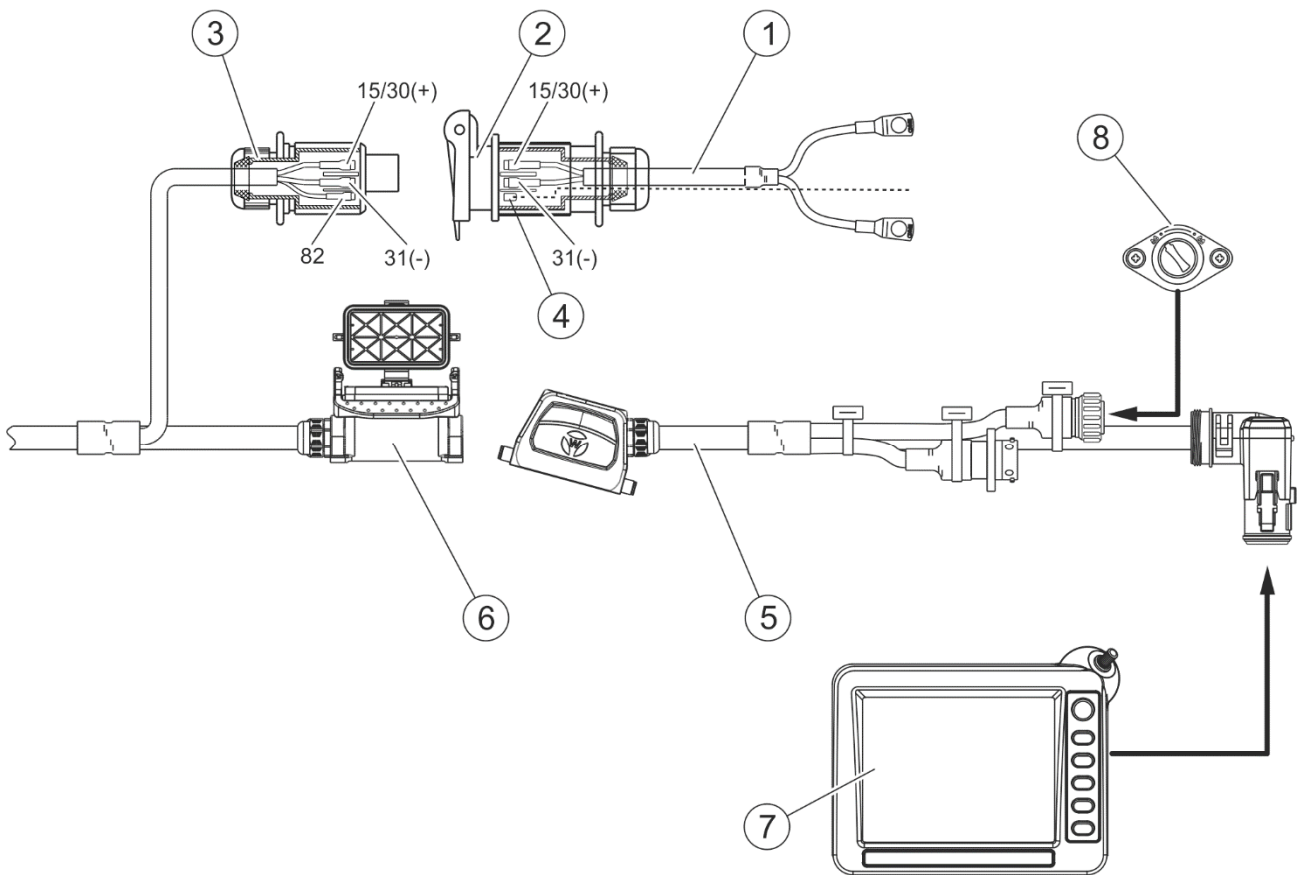

FIGURE 4.8 Connecting the electrical system
- Connect the leads of the power supply wiring harness (1) equipped with a 3-pin socket (2) to the carrying vehicle's battery (24V). Connect the red lead to the positive end of the vehicle's battery (+) and the black lead to the negative battery end (-) (FIGURE 4.8).
- The vehicle travelling speed signal should be fed to the contact (4) in the 3-pin socket (2) (FIGURE 4.8).
- Connect the plug (3) to the socket (2) of the power supply wiring harness (1). Contact 82 of the plug must be connected to the vehicle travelling speed signal contact (4) (FIGURE 4.8).
- Connect the control panel's main switch (8) to the connector in the wiring harness of the display (5) (if it is not connected) (FIGURE 4.8).
- Connect the control panel (7) to the wiring harness connector (5) (FIGURE 4.8).
- Connect the wiring harness of the display (5) terminated with the 10-pin connector to the 10-pin socket (6) of the sand spreader's wiring harness (FIGURE 4.8).